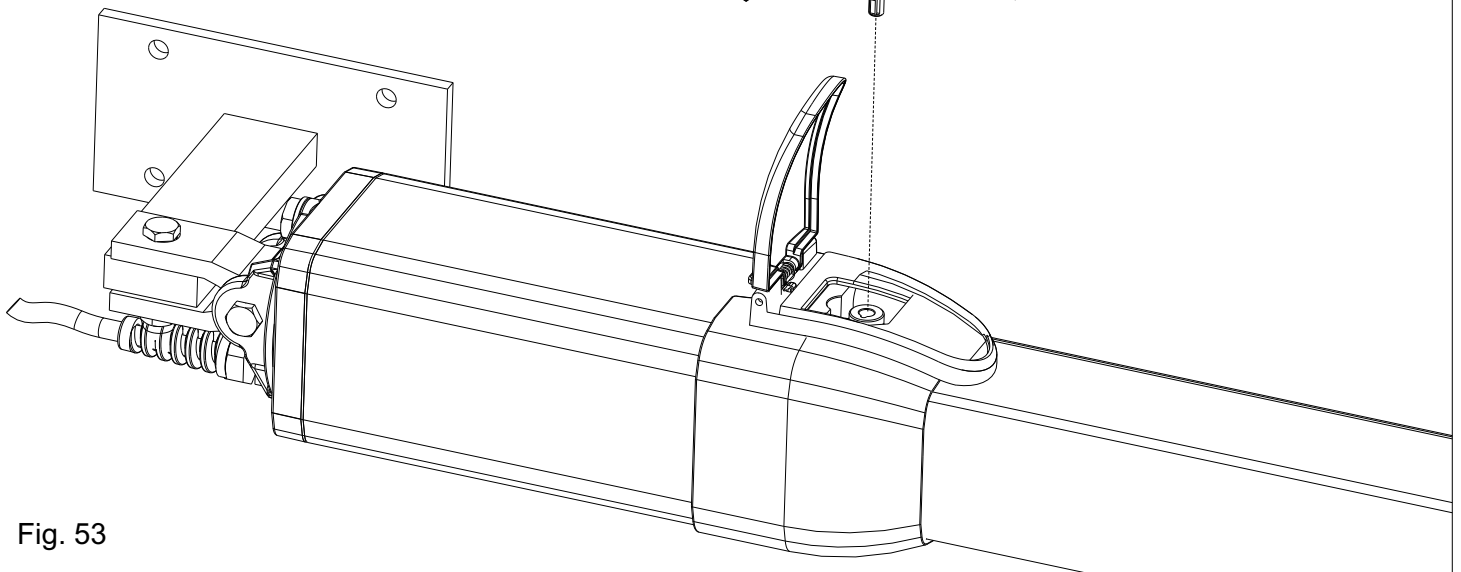

Fig. 53
-Insert the key and turn it about 180° anti-clockwise (Fig.53).
-Insert the key and turn it clockwise until it stops (Fig.53).